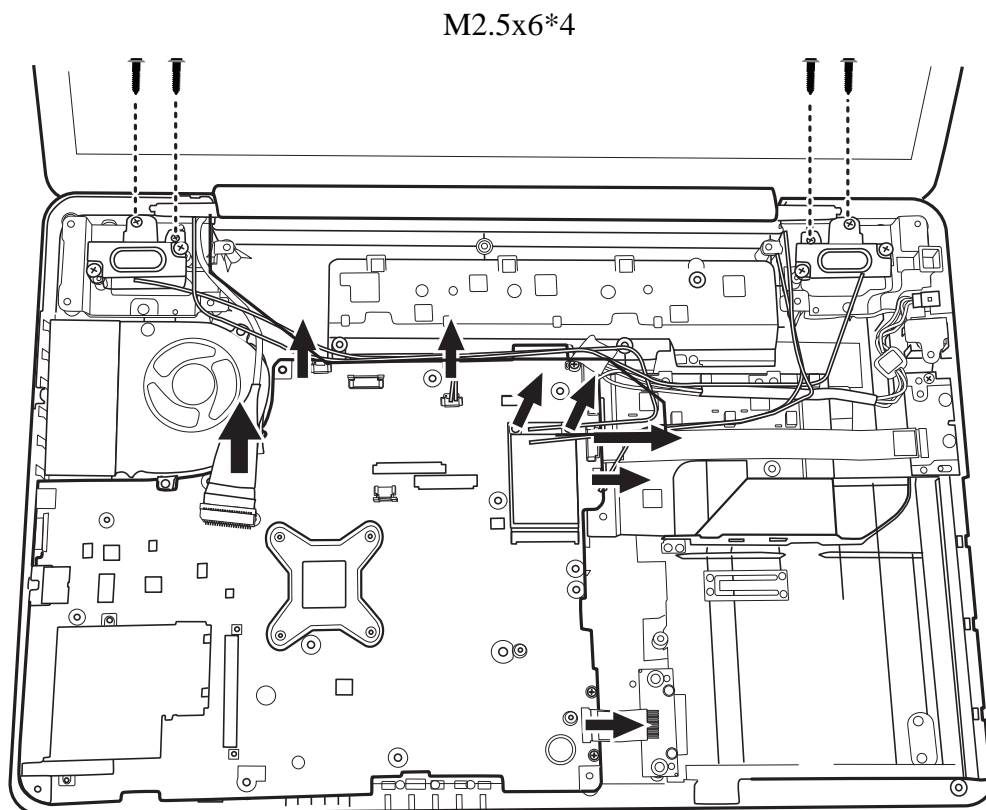

Figure 4.19 Removing the display assembly
Remove the display assembly according to the following procedures and Figures 4.19 and 4.20.
5. Attach all the connectors to the motherboard as indicated in Figure 4.19.